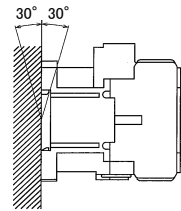

Fig.1
- (1) 请安装于干燥、洁净、牢固的场所。
- (2) 请垂直安装。允许倾斜角度在 30° 以内。(Fig.1)
- (3) 导轨安装型可装于 35mm 安装轨上。(符合 IEC60715)
- (1) Mount in a dry, clean and stable location.
- (2) Mounting on a vertical surface. The product must not incline more than 30°. (Fig.1)
- (3) The rail mounting type can be attached on a standard 35mm IEC60715 mounting rail.